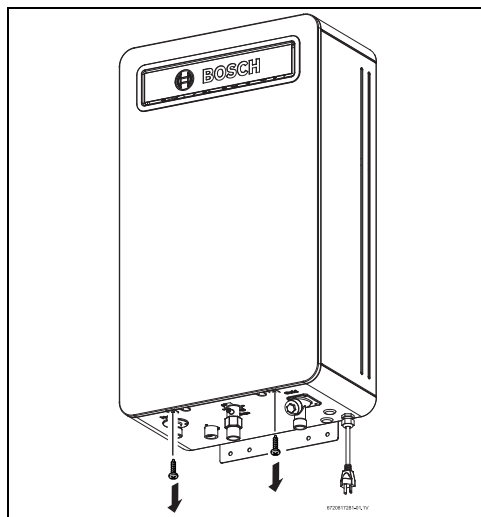

Fig. 3 Loosen two Phillips head screws
- Loosen two Phillips head screws located on bottom of cover (fig. 3).